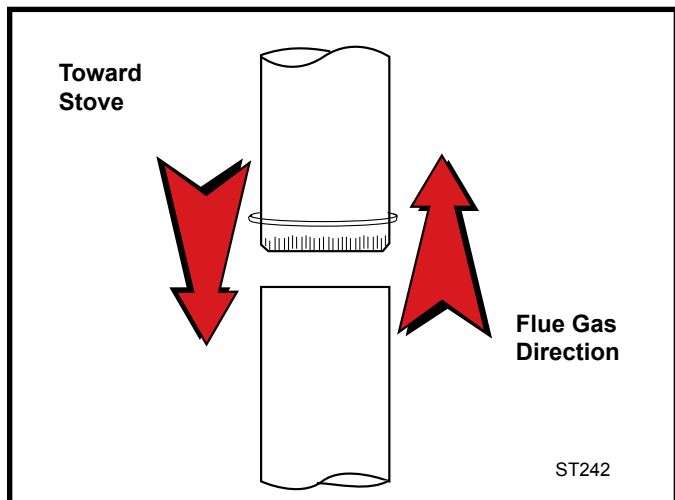

Fig. 5 Crimped sections always point toward the stove so that any liquid condensation will not leak out.
1. Insert the crimped end of the first section into the stove's flue collar, and keep each crimped end pointing toward the stove (Fig.5). Using the holes in the flue collar as guides, drill $\frac{1}{8}$ " (3 mm) holes in the bottom of the first section of chimney connector and secure it to the flue collar with three #10 x $\frac{1}{2}$ " sheet metal screws.